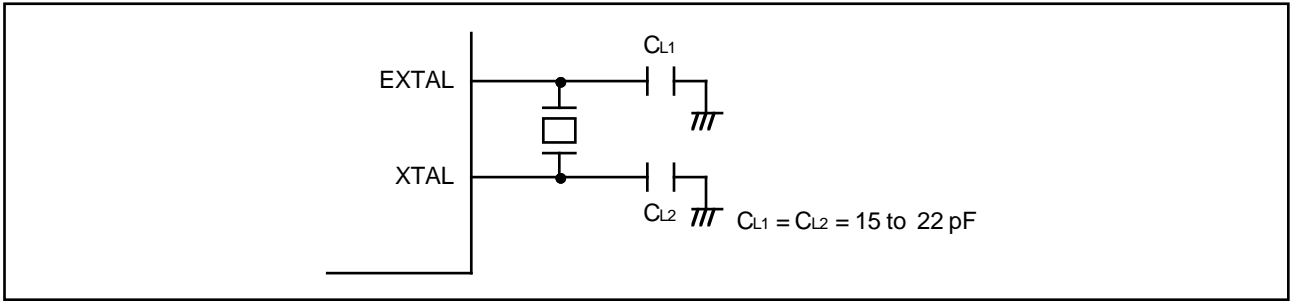

Figure 14-2. Connection of Crystal Oscillator (Example)
(1) Connecting an External Crystal
① **Circuit Configuration:** An external crystal can be connected as in the example in figure 14-2. An AT-cut parallel resonating crystal should be used.